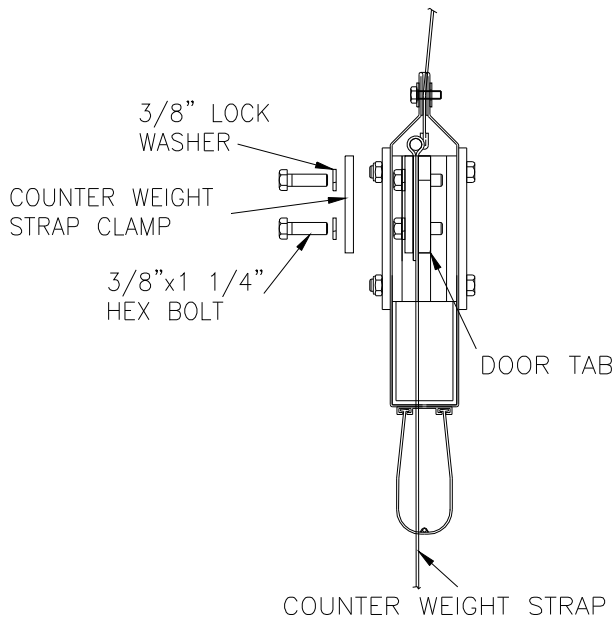

FIG. 11B
- d. **Attach Counterweight Strap** to Door Tab (Figure 11b).